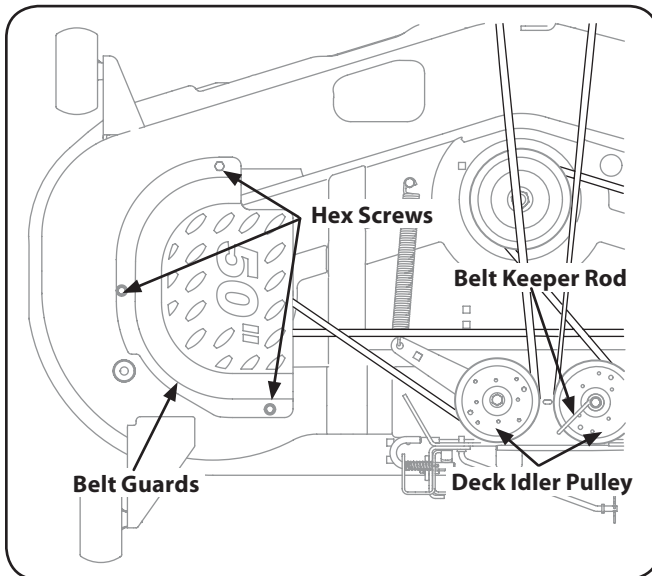

Figure 7-7
2. Remove the belt guards by removing the hex screws that fasten them to the deck. See Fig. 7-7.